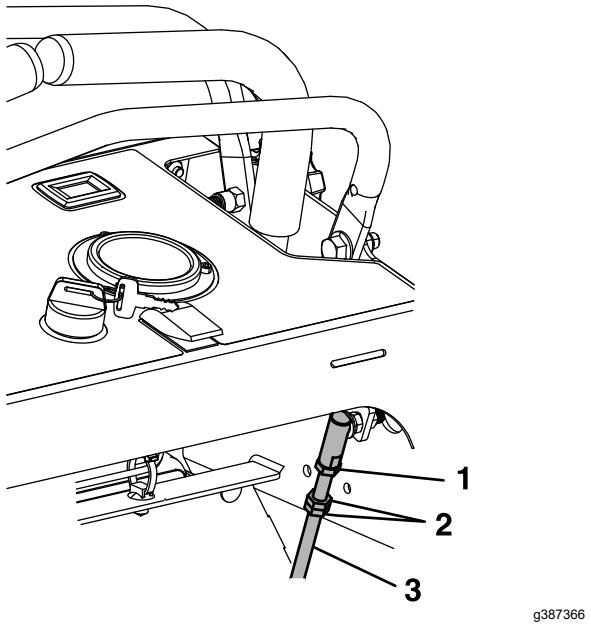

Figure 45
5. Loosen the upper jam nut at the base of the ball joint as shown in Figure 45. Adjust the control rod length by turning the two jam nuts. To increase the gap, turn the control rod counterclockwise. To decrease the gap, turn the control rod clockwise.
5. Loosen the top jam nut at the upper end of the ball joint on the lever that needs to be adjusted (Figure 45).